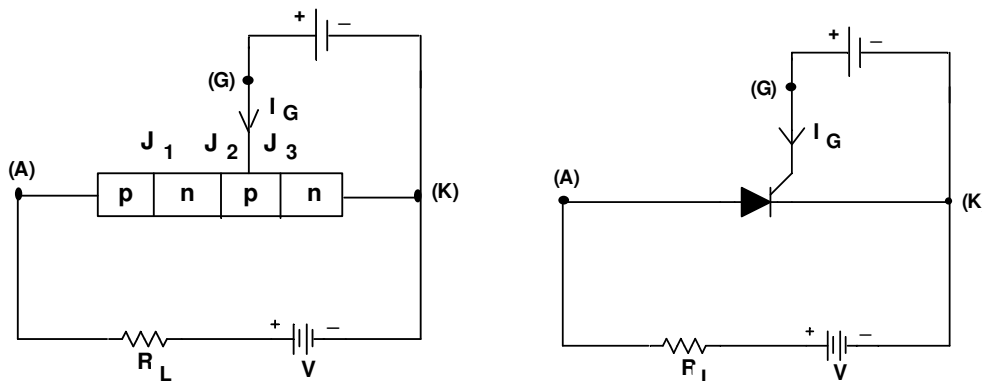

Fig.38.5
**Action of Gate Voltage:** Consider the SCR circuit shown in fig.38.5. When the anode is positive with respect to cathode i.e. when the SCR is in forward mode, the SCR does not conduct unless the forward voltage exceeds certain value, called the forward breakover voltage. In non-conducting state, the current through the SCR is the leakage current which is very small and is negligible. If a positive gate current is supplied, the SCR can become conducting at a voltage much lesser than forward break-over voltage. The larger the gate current, lower the break-over voltage. With sufficiently large gate current, the SCR behaves identical to PN rectifier. Once the SCR is switched on, the forward voltage drop across it suddenly reduced to a very small value, say about 1 volt. In the conducting or on-state, the current through the SCR is limited by the external impedance.
Now, when the power supply voltage, which is equal to voltage drop across anode and cathode of SCR (as there is little voltage drop across load on account of extremely small value of leakage current), reaches the forward breakover voltage, SCR at once begins to conduct and the voltage  $V$  across thyristor suddenly drops as shown by dotted curve AB as shown in fig.38.5. Full conduction is reached rapidly. Under such conditions most of power supply voltage appears across the load, as drop across thyristor is hardly 1 V as compared to several volts across load. The SCR now acts as truly closed switch, allowing power to flow through the load circuit. It will continue to flow as long as holding current for thyristor is maintained.